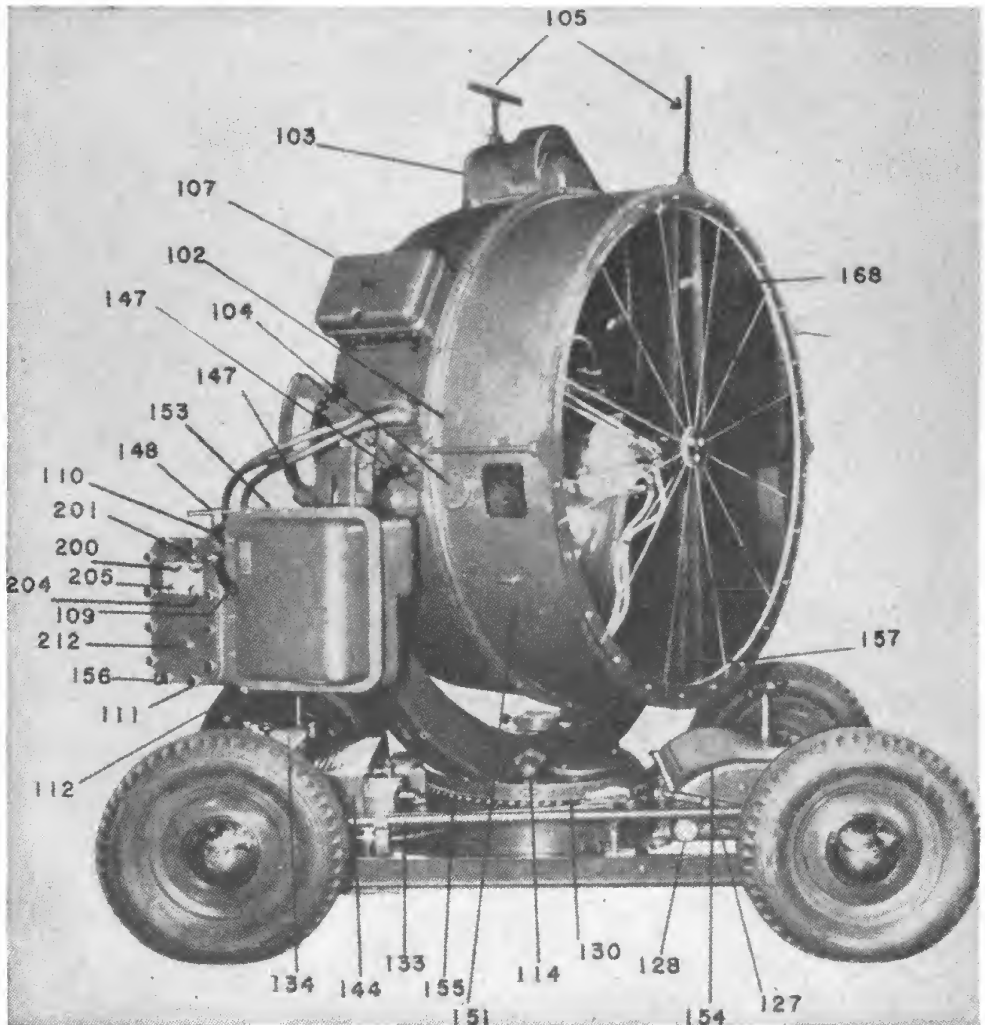

FIGURE 12.—General Electric M1940 searchlight (front quarter view).
Q. Point out the various parts of the M1940 General Electric searchlight. A. See figures 12, 13, 14, and 15.